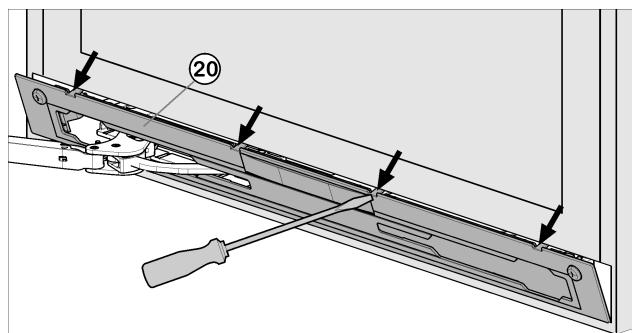

Fig. 9
- Release panel Fig. 9 (20) using a slotted screwdriver and remove.